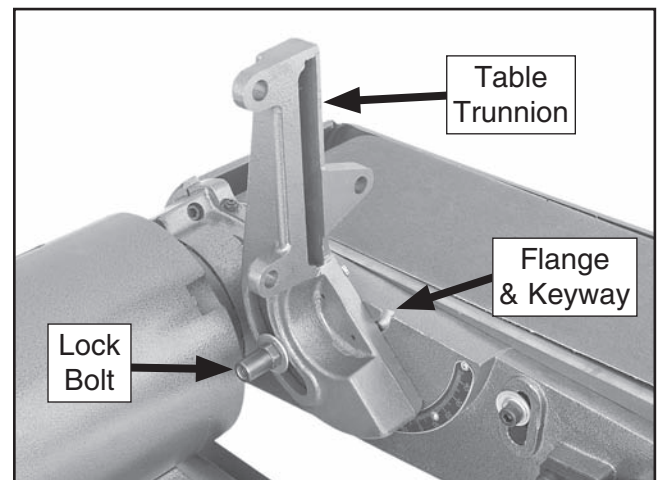

Figure 13. Sanding belt table trunnion installed.
2. Position the belt table trunnion against the side of the belt housing so that the semicircular flange fits into the keyway, then secure the trunnion in place with the lock bolt that was removed in **Step 1** (see **Figure 13**).